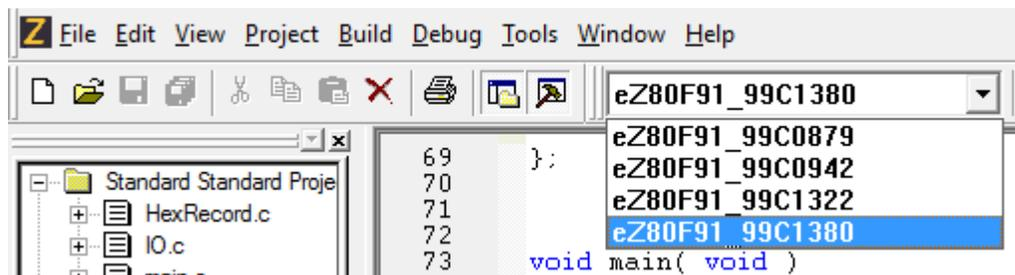

Figure 3. Example of Build Configuration Options for eZ80F91 Development Kits
3. From the **Build configuration** menu, select the target Zilog development kit based on the Zilog development kit number (silkscreen lettering visible on the development board). Figure 3 shows examples of build configuration options for select eZ80F91 development kits.